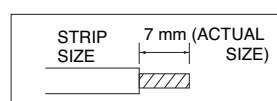

Fig. 24b
- (1) Cut the wire end with a cutting pliers, then strip the insulation to expose the wire about 7 mm. See the label (Fig. 24b) near the terminal plate.
- (2) Using a screwdriver, loosen the terminal screw on the terminal plate.
- (3) Insert the wire and tighten the terminal screw completely using a screwdriver.